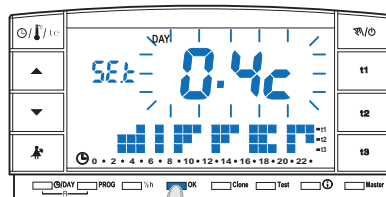

fig. 37
- Press **OK twice** the desired value is obtained to return to program operation (example in fig. 37).